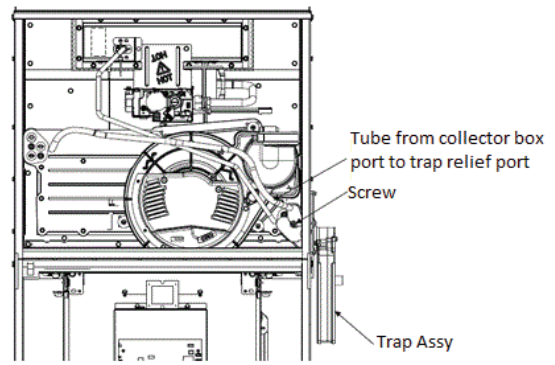

Fig. 19 – Example of Tube Connection
5. Remove factory-installed collector box cap. Run tube from port on upper left of the collector box to the relief port on the trap adapter, see Fig. 19. If the tube is too long, cut any extra length from the tube.
4. Remove factory-installed collector box cap. Run tube from port on upper left of the collector box to the relief port on the trap adapter, see Fig. 19. If the tube is too long, cut any extra length from the tube.